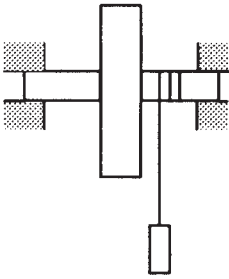

Figure 30.15 Problem 10
- 10 A solid flywheel has a mass of 450 kg and a diameter of 600 mm, with an axle of diameter 100 mm and mass 50 kg. The wheel and axle are set in motion by means of a string wound round the axle and carrying a mass of 10 kg (Figure 30.15). Determine (a) the moment of inertia of the wheel and axle and (b) the kinetic energy of it when the weight reaches the floor 2 m below its starting point.